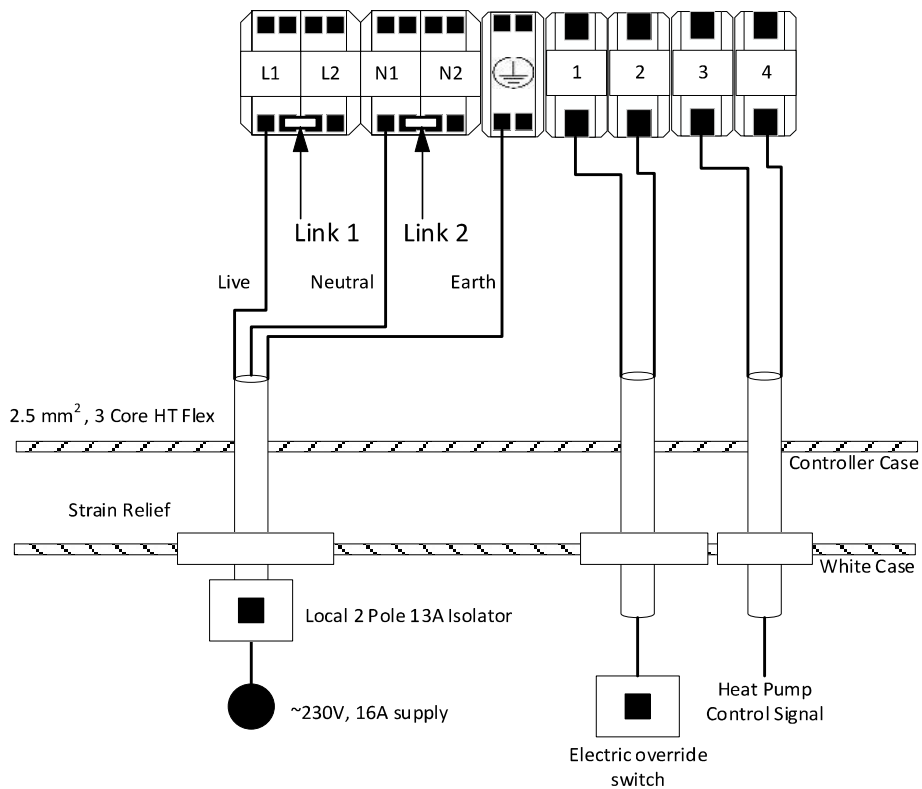

Figure 13.2: Wiring Option 2 – HW +iLTHP Daikin Low Temperature Heat Pump
- Wire a 2 core PVC insulated cable (minimum 0.75mm² CSA, 24 x 0.2mm according to BS 6500) from a local 2-pole switch, run the wire into the appliance via the appliance case cabling grommets and then into the control box housing through the hole available. Secure the cables in Terminal T1 & T2 independently (Figure 13.2).
Wire a 2 core PVC insulated cable (3A, minimum 0.75mm² CSA, 24 x 0.2mm according to BS 6500) from the Heat Pump Indoor Tank sensor connection “X9A (PCB A1P)” (please refer to Heat Pump manual) , then run the wire into the appliance via the appliance case cabling grommets and then into the control box housing through the hole available. Secure the cables in Terminals T3 & T4 independently (Figure 13.2).